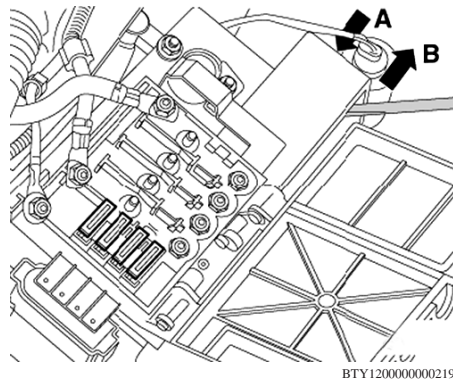

Fig. 4 Fastened fuse holder removal
11. Relieve tension on fuse holder mounting in direction of (arrow A), and release clip with screwdriver in direction of (arrow B), **Fig. 4**.